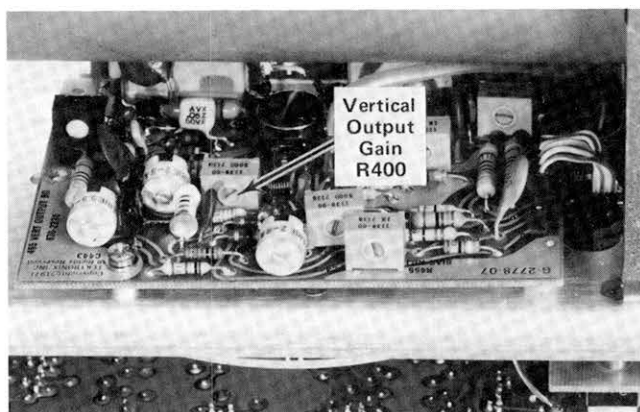

Fig. 5-15. Location of Vertical Output Gain adjustment.
j. ADJUST—Vertical Output Gain adjustment, R400, (see Fig. 5-15) for 4 divisions of deflection.